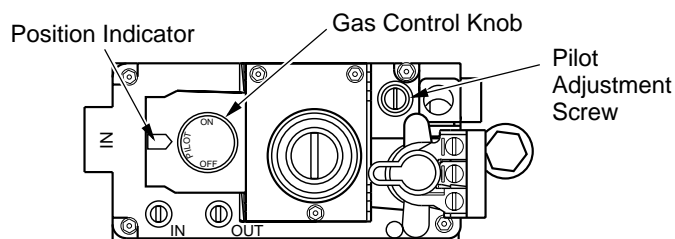

Figure 35 - Control Knob in the PILOT position
6. Turn gas control knob clockwise  to the OFF position (see Figure 35).
7. Wait five (5) minutes to clear out any gas. Then smell for gas, including near the floor. If you smell gas, **STOP!** Follow "B" in the safety information, above. If you don't smell gas, go to the next step.
9. Push in the knob all the way and hold in. Immediately light the pilot manually. Continue to hold the control knob in for about (1) minute after the pilot is lit. Release knob and it will pop back up. Pilot should remain lit. If it goes out, repeat steps 5 through 9.
- Turn the adjustment screw marked pilot clockwise to decrease or counterclockwise to increase the flame to proper size (see Figure 35, page 16). Do not remove the adjustment screw.